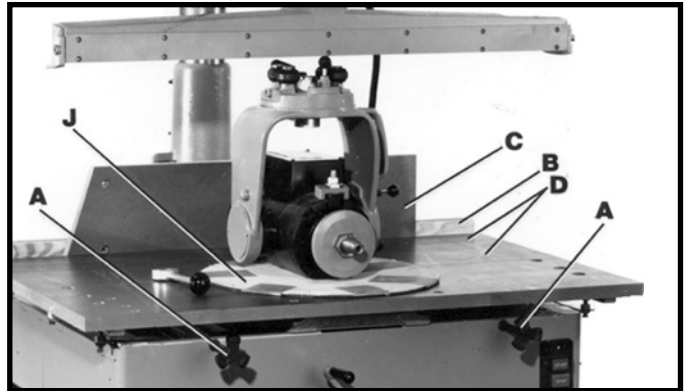
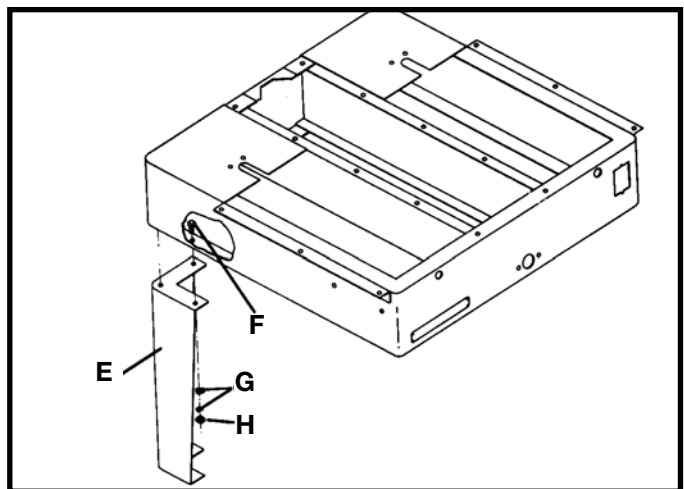
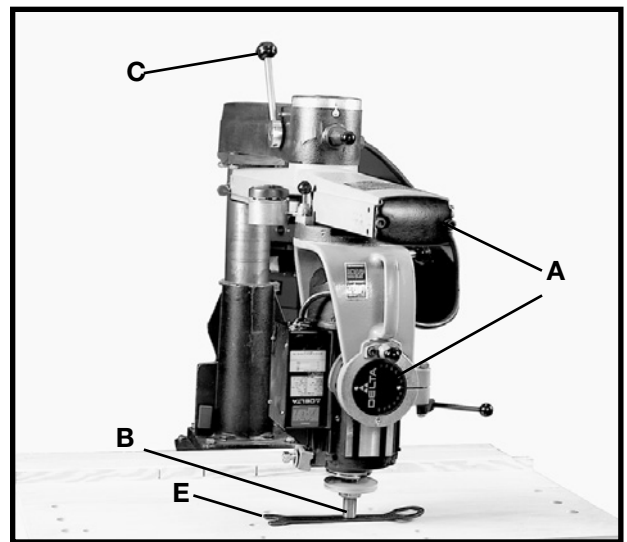
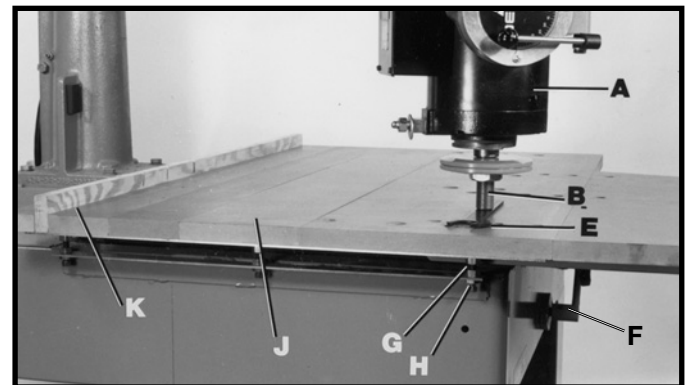

Fig. 4
Fig. 5
Fig. 18
Fig. 19
IMPORTANT: To gain access to the four bolts that fasten the saw to the wooden shipping skid, loosen two table lock knobs (A) Fig. 4. Remove fence (B), angled front table board (C) and at least two table boards (D). Do not remove the packing material around the motor at this time.
Mechanically lift the machine using a forklift and lifting straps, and support the machine. Attach the four steel legs (E) Fig. 5, to each corner of the base using twelve 3/8-16x1" hex head screws (F), 3/8" flat washers (G), and 3/8" lockwashers (I) and 3/8-16 hex nuts (H). Remove the packing material from around the motor. The motor will be positioned on the table as shown in Fig. 4.
1. Move the motor and cuttinghead assembly (A) to the vertical position (Fig. 18). Position saw arbor (B) Fig. 18, so that it is approximately in the center of the front table board. Push track-arm clamp handle (C) Fig. 18 to the rear to secure track-arm and tighten cuttinghead clamp knob (G) Fig. 5.
Using the spanner wrench (E) Fig. 18 as a feeler gauge, raise or lower track-arm by turning elevating handle (F) Fig. 19 until saw arbor (B) just touches wrench (E). **DO NOT RAISE OR LOWER TRACK-ARM ANY FURTHER UNTIL LEVELING ADJUSTMENT IS COMPLETED.**
2. Move cuttinghead (A) so that the saw arbor (B) Fig. 19 is at the left front table, as shown. Make sure track-arm clamp lever and cuttinghead lock knob are tight. Using the spanner wrench (E) Fig. 19 as a feeler gauge check to see if an adjustment is necessary. To lower the table, loosen nut (G) and tighten nut (H) Fig. 19. To raise the table, reverse this adjustment. Check table at points (J) and (K) and adjust if necessary. Check table on right side in the same manner.